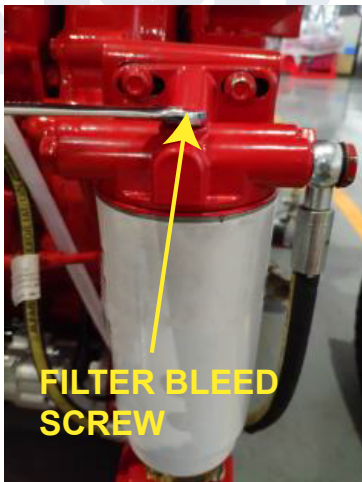

FIGURE 23 - FUEL RETURN LINE CONNECTION
- To make sure that the fuel lines after the fuel injection assembly have no air present, loosen the return fuel line on the injection pump assembly. See FIGURE 23.